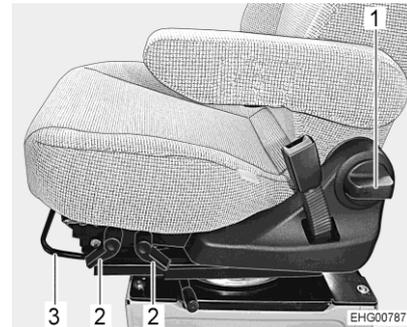

Fig. 17 Seat adjustment
- Pull the bar (Fig. 17,3) upwards.
- Pull the front or rear lever (Fig. 17,2) upwards. Adjust the front angle of inclination with the front lever. Adjust the rear angle of inclination with the rear lever.
- Turn the rotary handle (Fig. 17,1). The backrest inclines forwards or backwards, depending on the rotation direction.